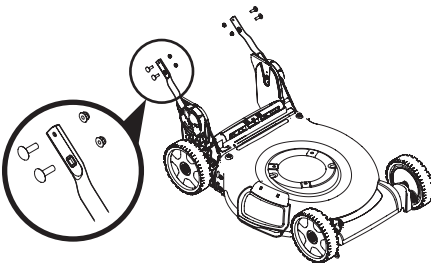

Figure 10
- Remove the four carriage bolts and nuts from the lower handles (Figure 10).